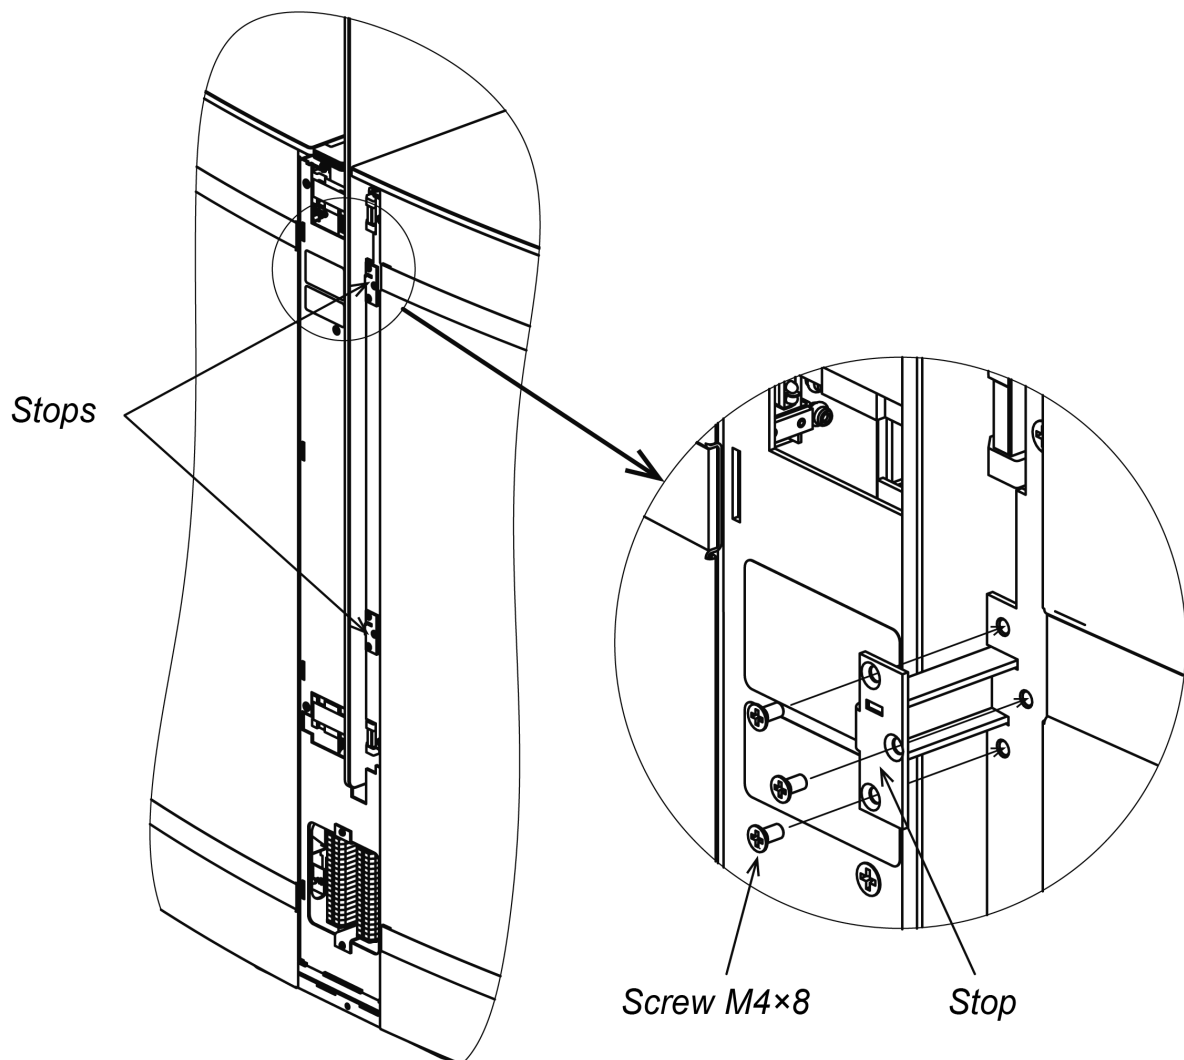

Figure 29. Installation of the sliding panels departure limiters
- Install the two supplied special stops on the section housing and secure each with three M4×8 screws (see Fig. 29):